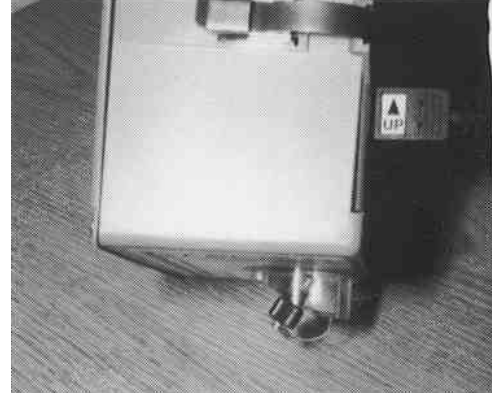

Figure IX-3. Connecting the power supply
- Step 4.** Plug the small connector from the power supply into the socket located on the outside of the cover. The label on the connector marked "UP " refers to the top of the PORTACOUNT. The socket has been located so that the stand may still be used to hold the PORTACOUNT (fig. IX-3).